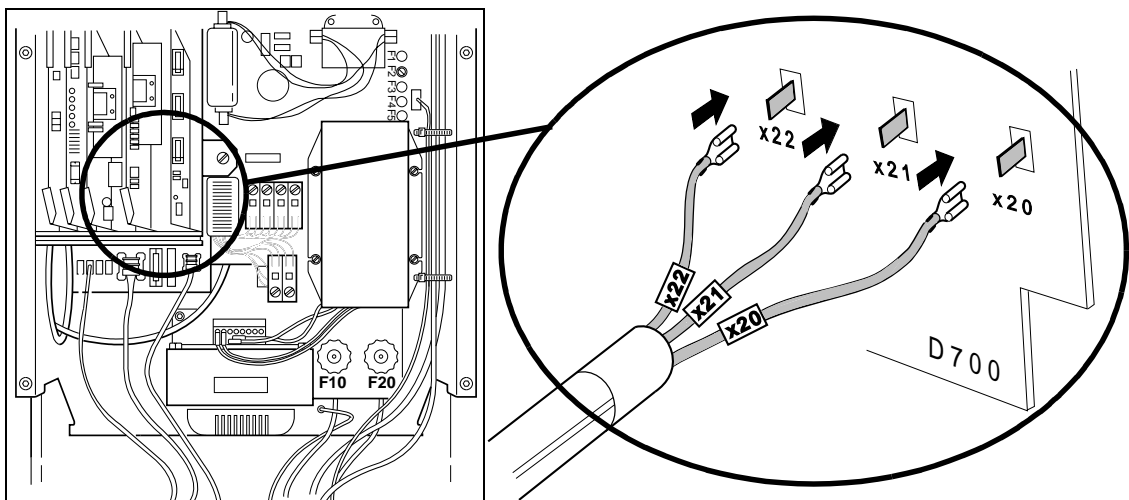

Figure 4.
- Connect the cable conductors marked X20, X21 and X22 to corresponding generator connectors X20, X21 and X22 on the p.c. board D700 according to Figure 4.